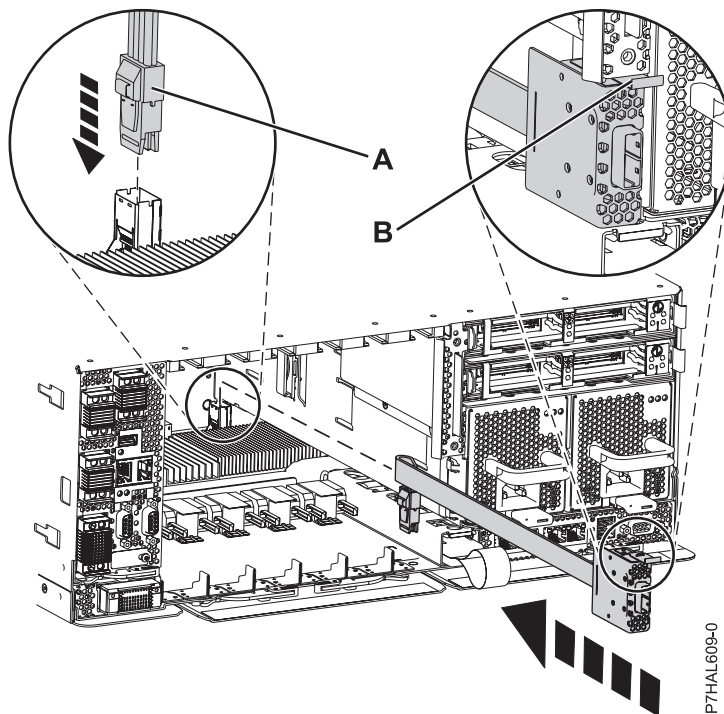

Figure 36. Replacing the SAS cable
1. Connect the external port to the back of the system **(B)** until it snaps in place, as shown in Figure 36.